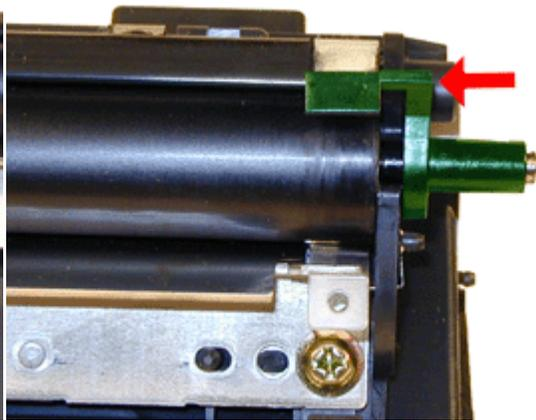

FIGURE 18
15. Turn both of the developer roller clips up so that they unlock, and remove. Both clips have been colorized for ease of identification. See Figures 18 & 19